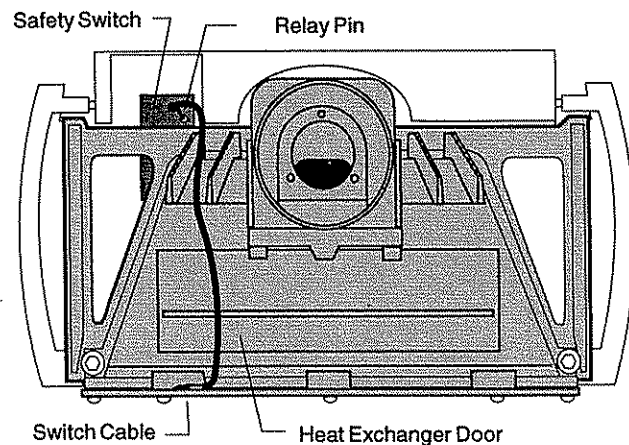

Figure 40b. Switch Cable Position.
2. Be sure that the switch cable is slack and positioned over the top of the Heat Exchanger Door as in Fig. 40b.